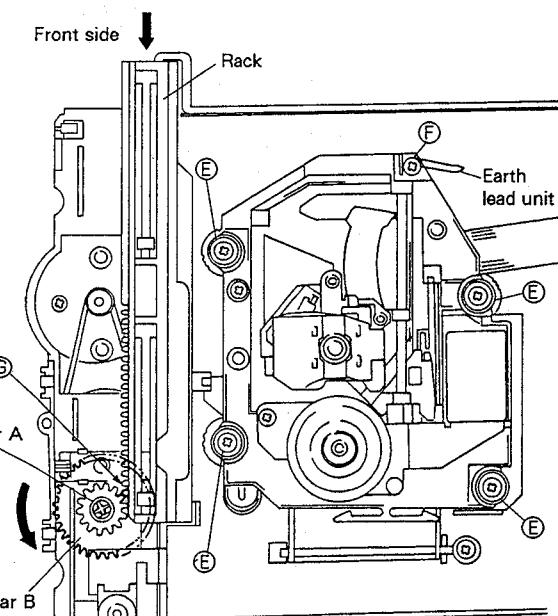

Fig. 2-3
- ① Remove the tray. (Refer to the "REMOVING THE TRAY".)
- ② Remove the four screws ③ and one screw ④ with the servo mechanism assembly lowered (to the tray open position). (Fig. 2-3)
- ③ To move the rack by hand, gear A and the gear section of the rack must be engaged at section ⑤ (see Fig. 2-3). Otherwise, the rack may not move. In this case, move gear B with a  $\ominus$  screwdriver from the side and fit gear B and the gear section of the rack at the engaging section ⑤.